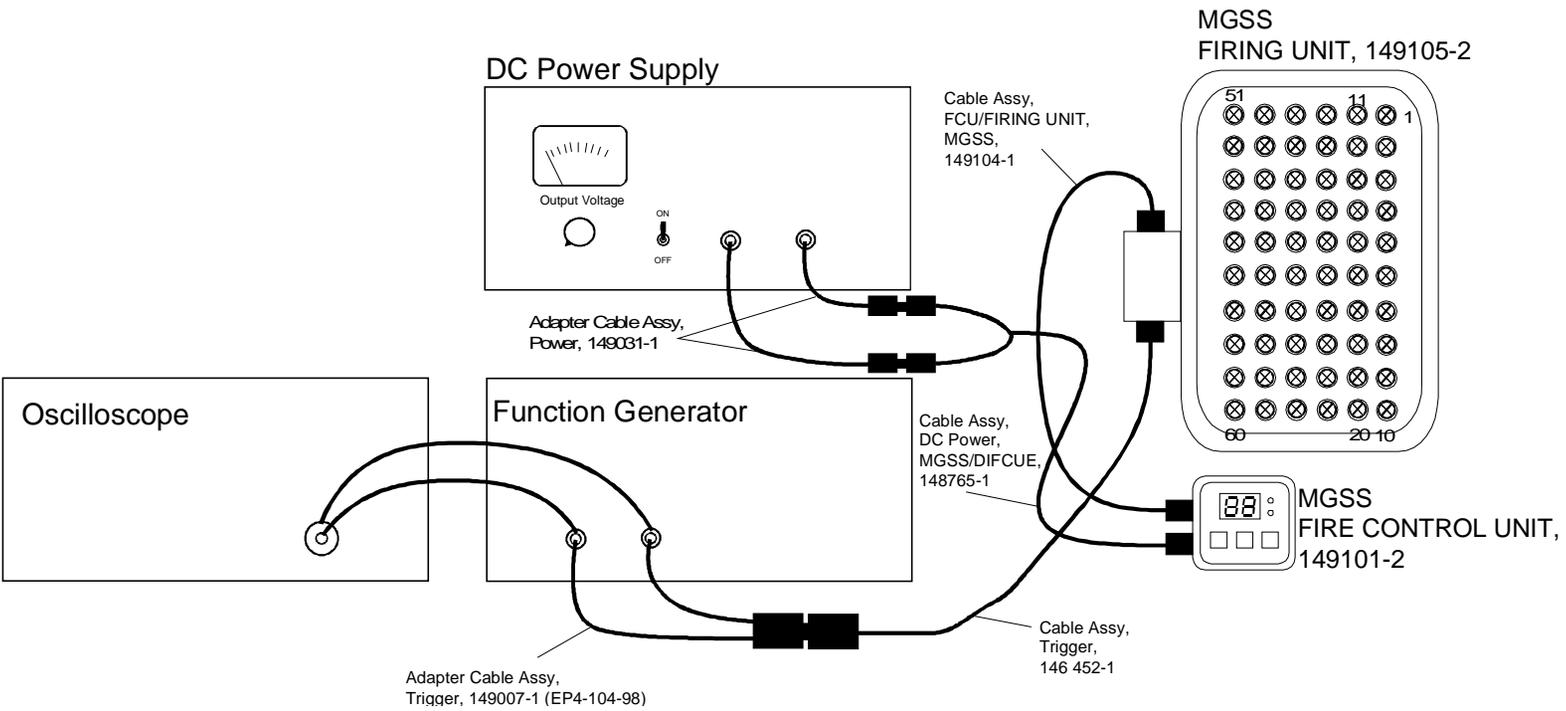

Figure 2-1. Rate of fire, test setup.
1. Establish test setup according to fig. 2-1.
2. Establish all cable connections between the Firing Unit and the function generator and between the Fire Control Unit and the DC supply (fig. 2-1).